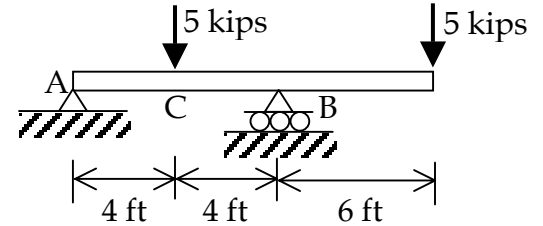

Figure 1.
1) For the beam shown in Figure 1: